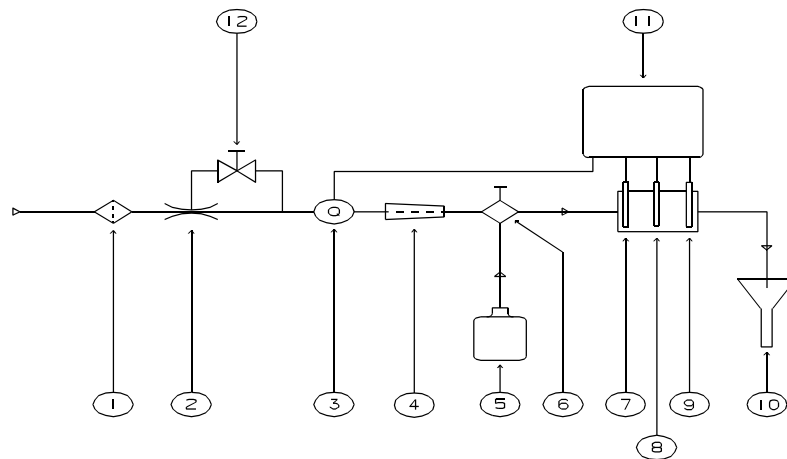

Figure 2-2 : Principle of operation of the 9073 - CARCAL version
3.5.2 AUTOCAL version (see figure 2-2)